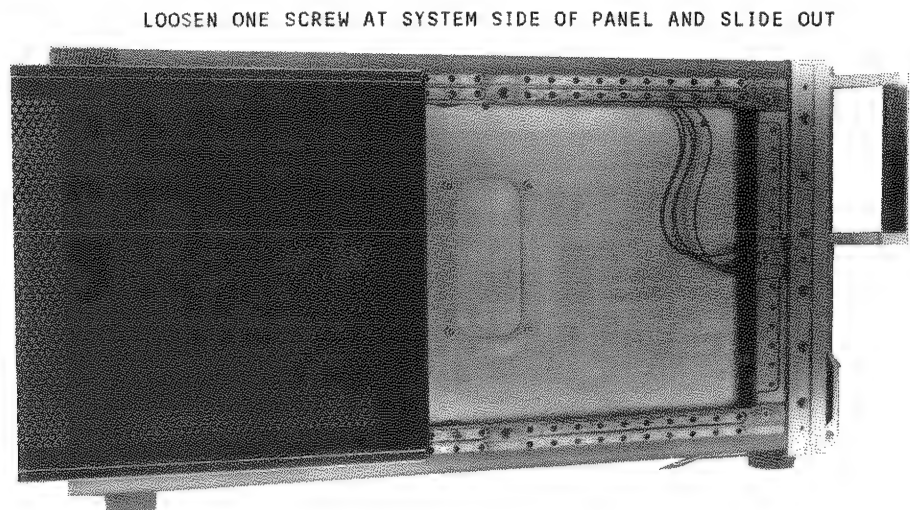

Figure 22. Removing Frame Left Side Panel.
2. Remove the frame's left side panel (Figure 22).